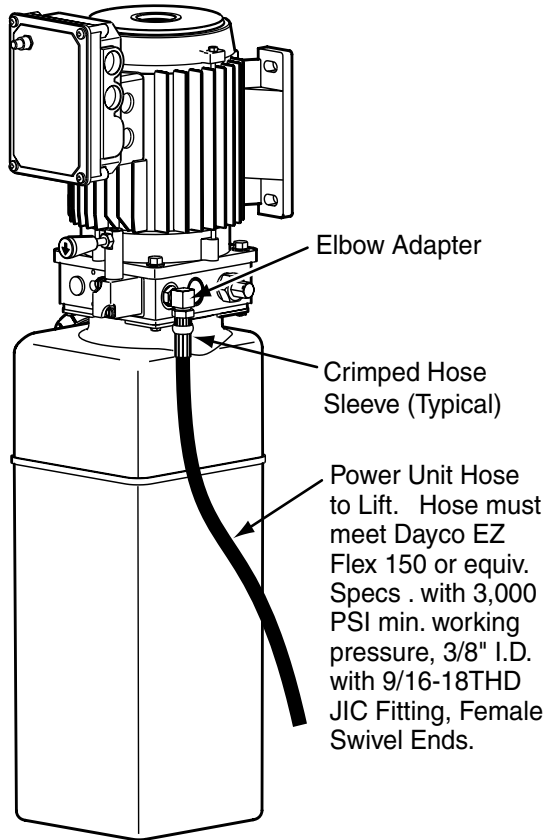

Fig. 11
E. Install and hand tighten elbow adapter to pump until O-ring is seated, Fig. 11. Continue to tighten the locknut to 10-15 ft.-lbs., or until the nut and washer bottom out against the pump manifold. **NOTE:** You may still be able to rotate the Branch Tee. This is acceptable unless there is seepage at the O-ring. If so, slightly tighten the locknut.
2. Hose must be free of debris. Inspect all threads for damage, Fig. 11.